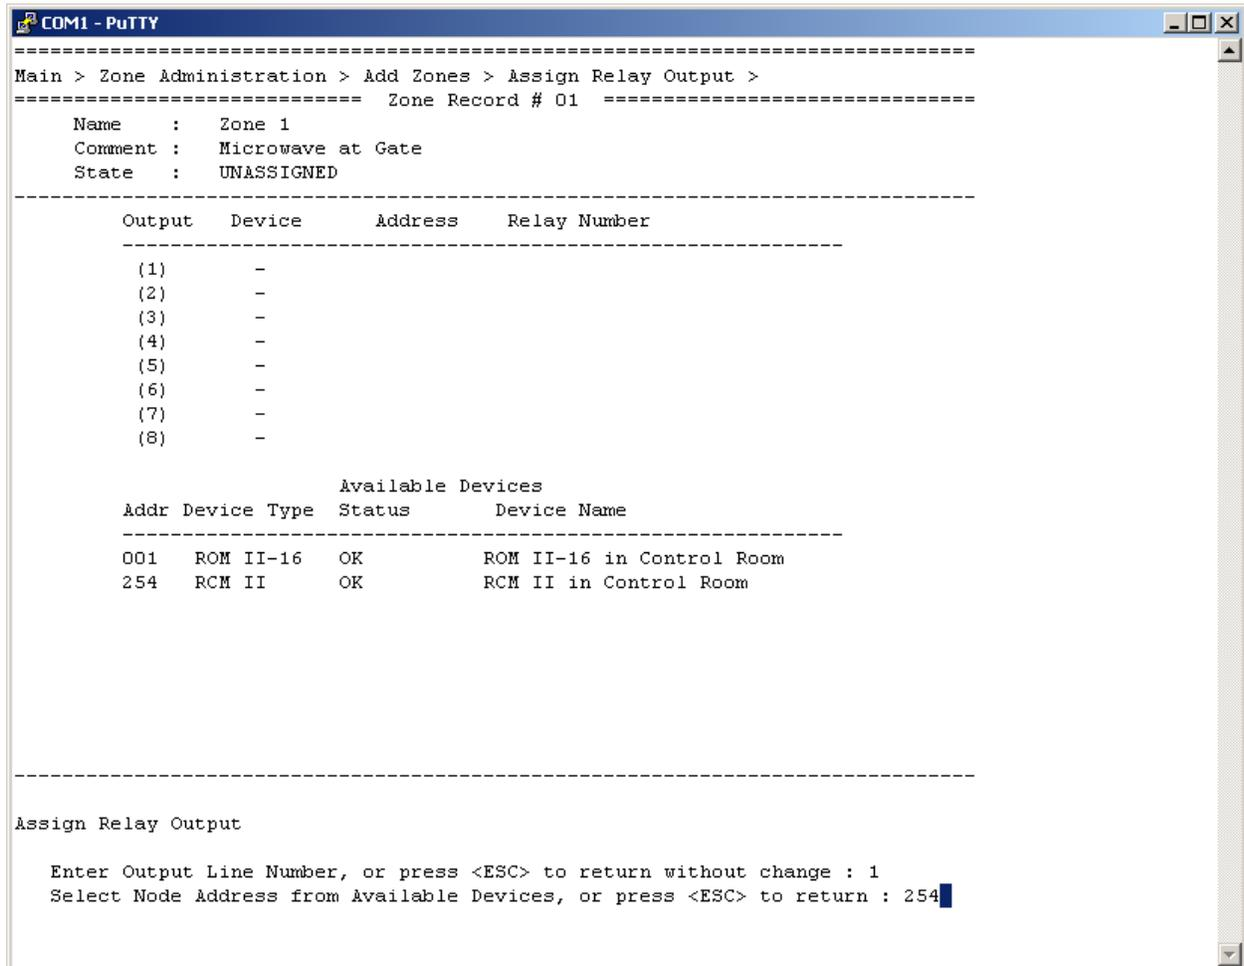

Figure 34 – Available Output Devices Screen
To enter an output, a prompt will be displayed to select the Output Line Number (1-8) as shown in Figure 34. These can be selected in any order and gaps can be left in the table if desired. Select the desired number(s) and press ENTER.
Once the output line number(s) has been selected, a prompt will be displayed to select a device address from the Available Devices list as shown in Figure 34. Only Discovered Devices that have assignable outputs will appear in the list. Input the three (3) number node address and press enter.